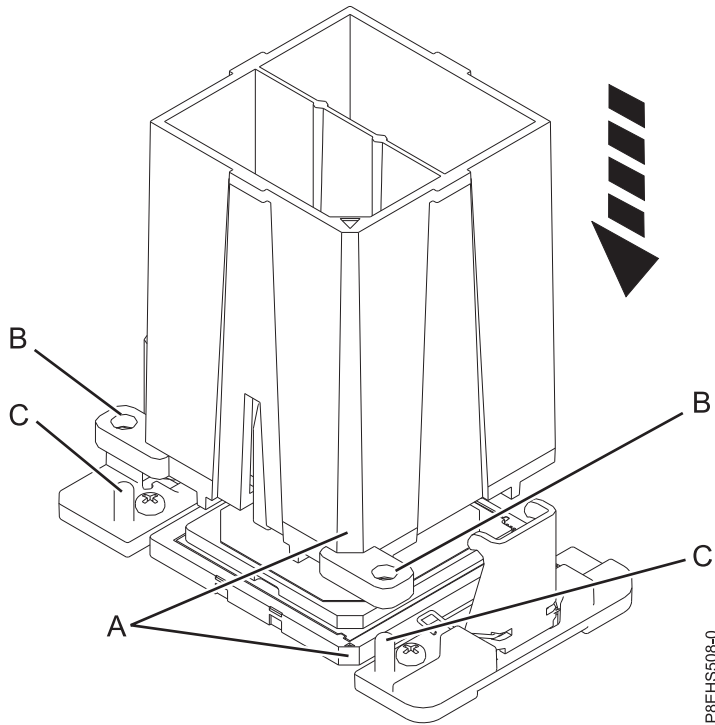

Figure 158. Lowering the removal tool onto the system processor module
- a. Using the supplied removal tool (part number 01AF101), align the beveled corner (**A**) of the tool over the beveled corner of the system processor module as shown in Figure 158 on page 139.